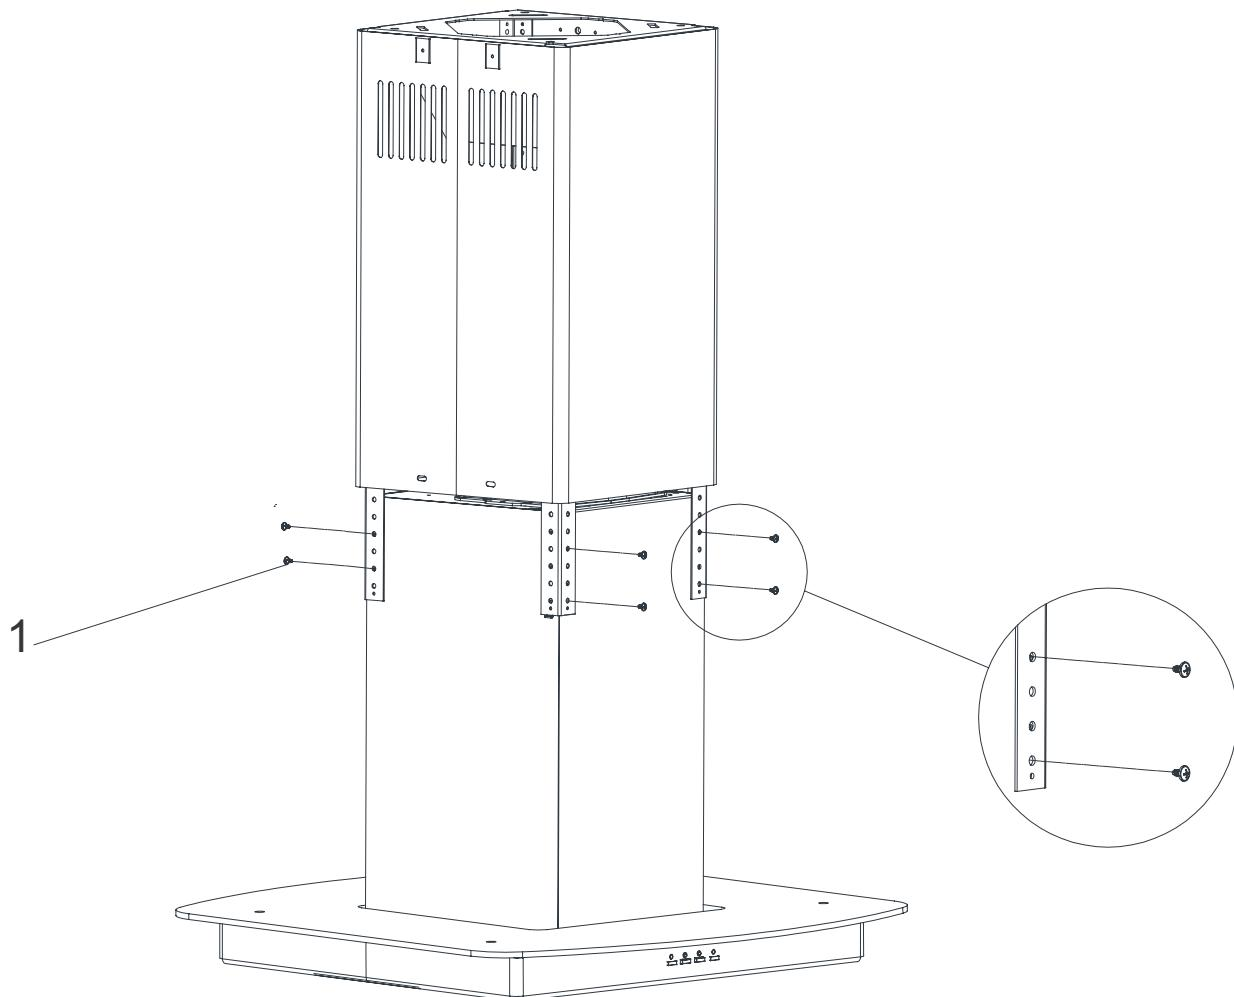

Fig. 13
2. ➤ Lift sheet metal flues up and screw the product to product hanging bars with 3.5 x 9.5 r phillips cylinder head screws (Fig. 13/1).